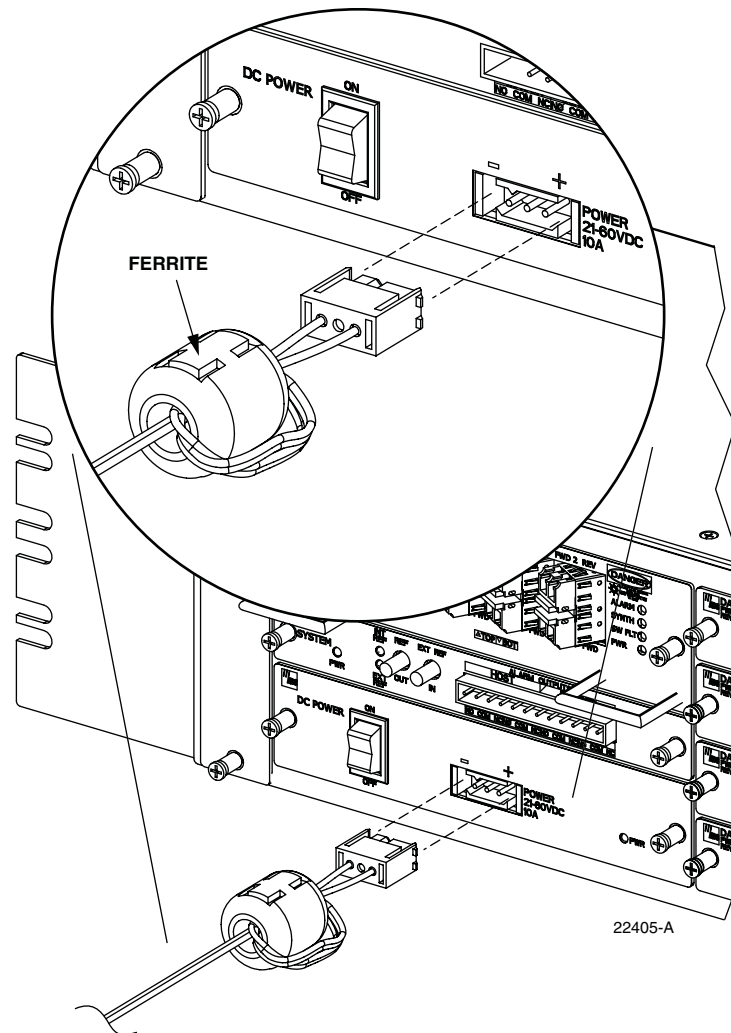

Figure 19. DC Power Connections
5. Route the wires to the terminal block (Figure 19) on the HU Power Supply and cut them to length, allowing sufficient length for termination.
6. Loop both power wires around and through the Ferrite as shown in Figure 19.